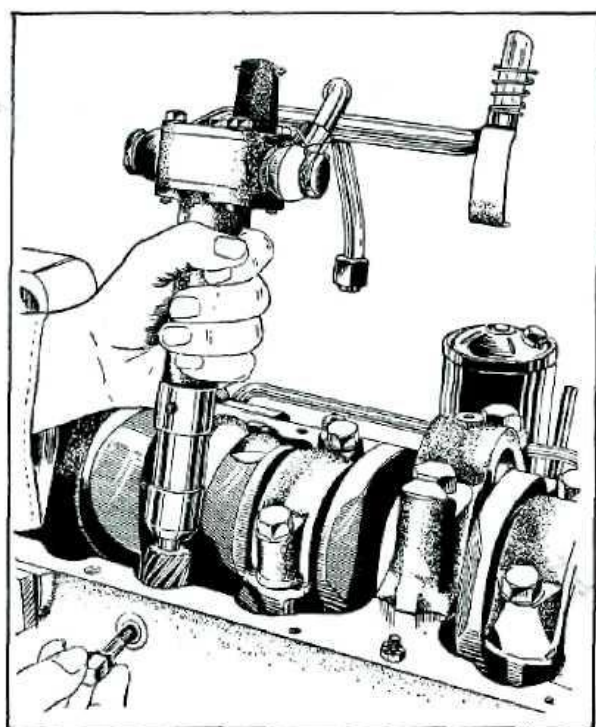

Fig. B.18 — Removing Oil Pump.
4. Unscrew the lubricating oil pump locating setscrew. This screw is situated outside the cylinder block. (See Fig. B.18).
5. The oil pump may now be removed. (See Fig. B.18).